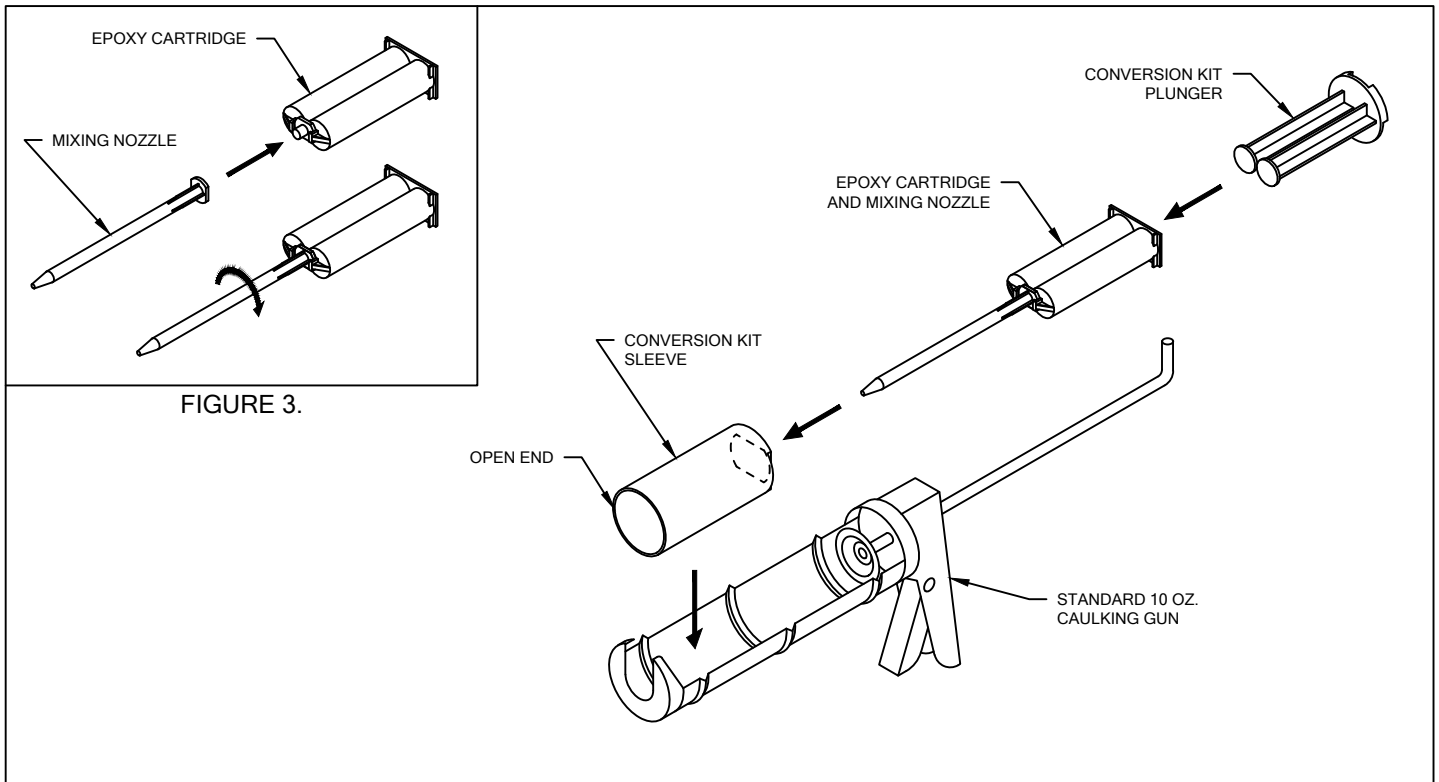

FIGURE 4.
CAULKING GUN CONVERSION KIT. REFER TO FIGURE 4.
3. PLACE THE CONVERSION KIT, WITH MIXER NOZZLE AND EPOXY CARTRIDGE, IN A STANDARD 10 OZ CAULKING GUN AS SHOWN IN FIGURE 4. PLUNGER WILL ATTACH TO CIRCULAR PUSH PLATE ON CAULKING GUN.